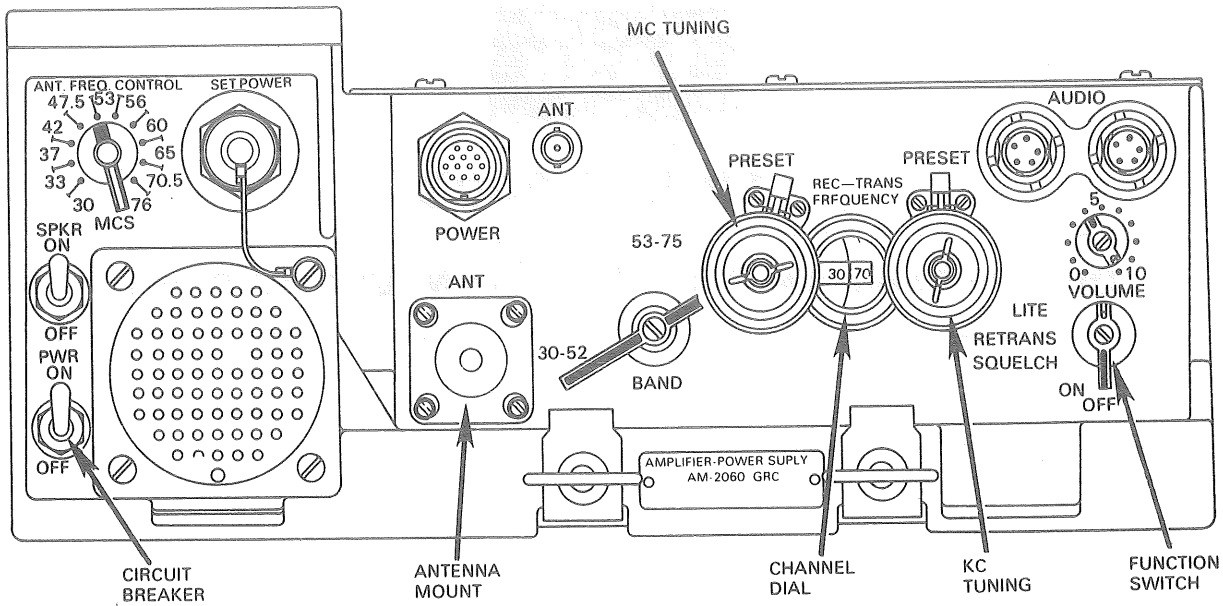

Figure 1. Amplifier-Power Supply and Receiver-Transmitter, Controls, Indicators, and Connectors.
- d. Utilize preset or turn the MC tuning and KC tuning controls so that the desired frequency shows in the frequency window. (Refer to fig 1.)
- a. Turn amplifier-power supply POWER switch to ON. (Refer to fig 1.)